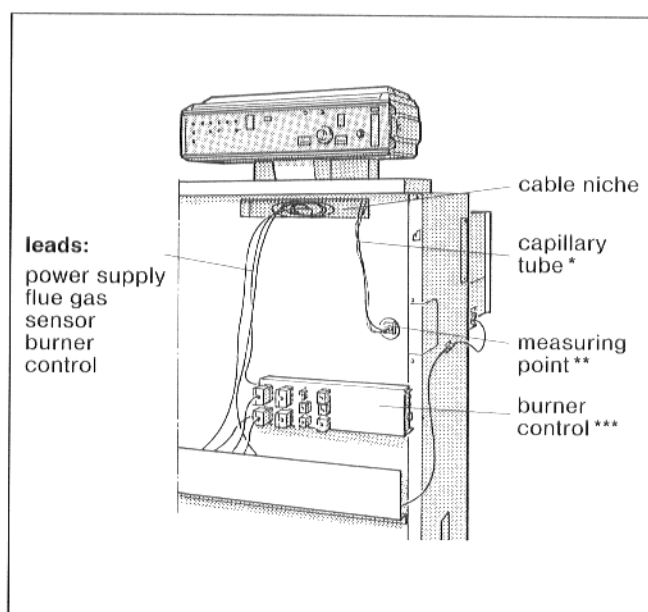

Fig. 38 – Front of boiler with front panel removed
- Push in temperature sensor into the sensor pocket (measuring point) to maximum extent (see Fig. 38). The plastic spiral is pushed back automatically. The compensating spring must also be pushed into the sensor pocket.